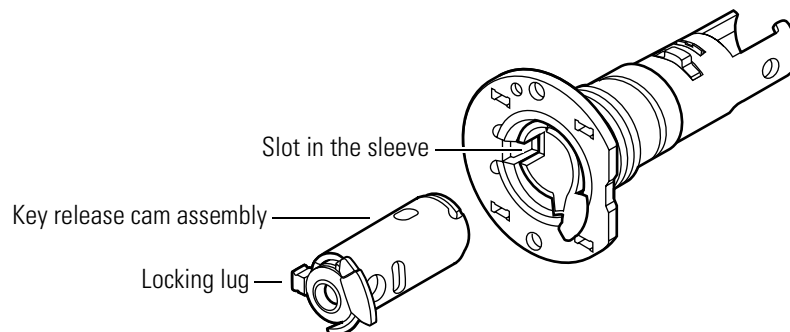

Figure 3.20 Reinstalling the key release cam assembly
2. Insert the key release cam assembly into the sleeve so that the locking lug fits into the slot in the sleeve, as shown in Figure 3.20.